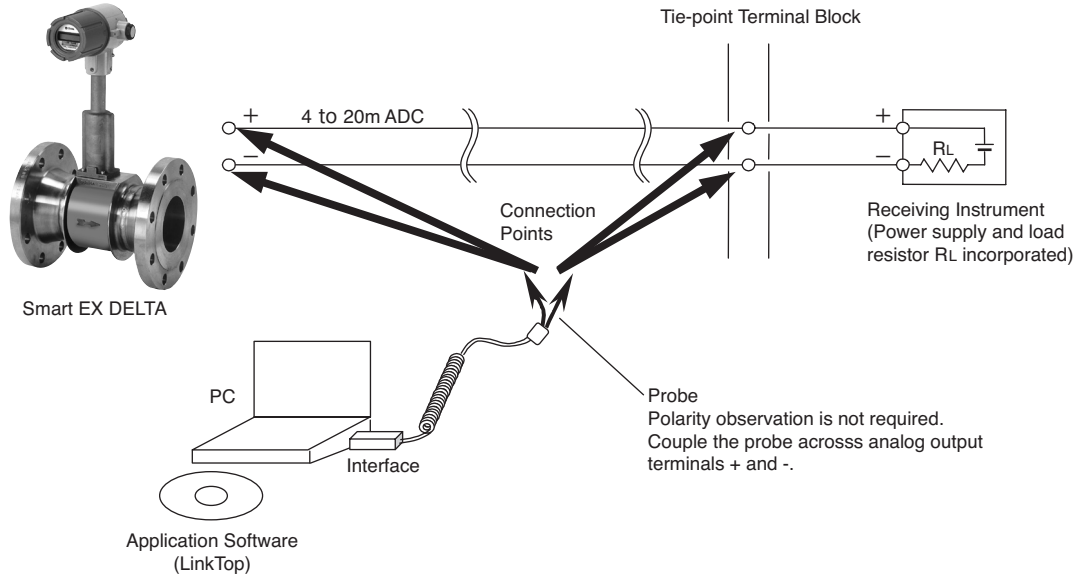

Fig.2
Equipment set-up with associated equipment and devices are shown in Fig. 2.
➡ NOTE: In Fig. 2, the customer is to supply the PC that meets the following requirements:
- ① Hook up the flowmeter transmitter, interface adapter, and "LinkTop" preinstalled PC as shown in Fig. 2.
- ② To get the LinkTop up and running, click "Start" at lower left of the PC screen and click "LinkTop for EX-DELTA (E)" from "Program".
- ③ Click "Port setting (I) Ctrl + I" in "File (F)" at the top-level menu of screen.